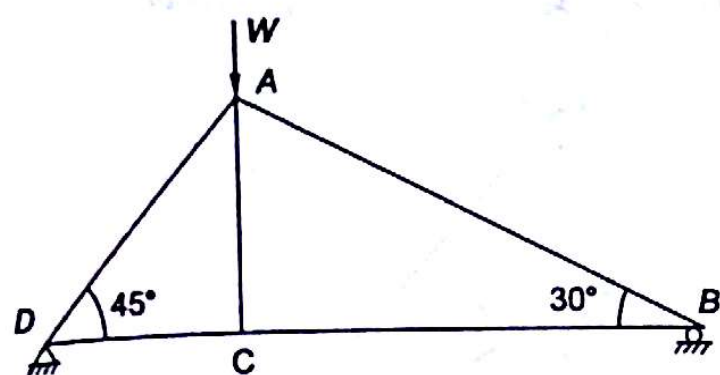

Fig. 4.36
4.7 A truss ABCD carries a vertical load at joint A as shown in Fig. 4.36. If force in member AD is 5 kN compressive, what is force in member CB?